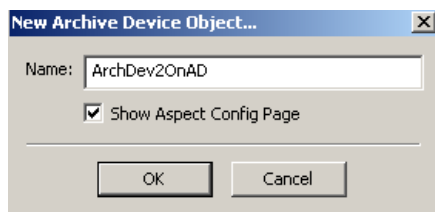

Figure 226. New Archive Device Object Dialog
5. Click **Archive Device** in the Create New Archive Object section. This displays the New Archive Device dialog, Figure 226.